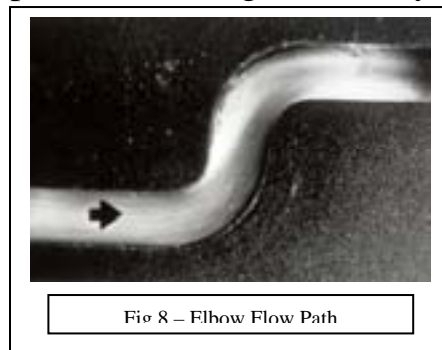

FIG 8 – Elbow Flow Path
- Piping is an important consideration with the Welker Jet[®]. Because of its positive exit flow profile and high recovery, downstream piping can inadvertently become a noise generator. A **90° elbow fitting** immediately downstream can generate high noise because of the flow, -- but the noise is the result of the gas impinging on the elbow, and NOT from the valve itself. (see fig.8)